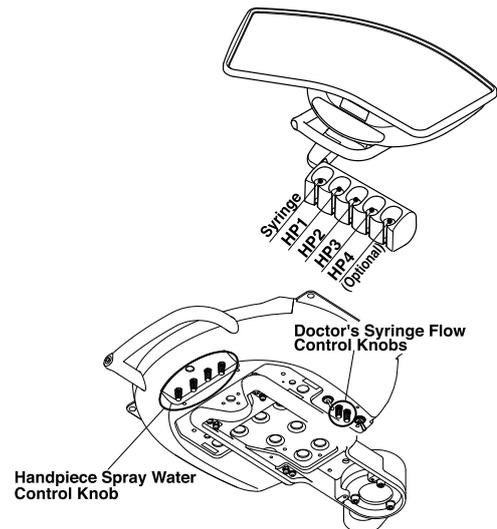

Fig.3-15 Doctor Table Section Control Knobs
(4) Doctor Table Section Control Knobs
A. Handpiece Spray Water Control Knobs (Fig.3-15)
B. Doctor's Syringe Flow Control Knobs (Fig.3-15)